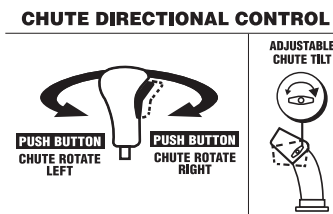

Figure 3-8
- To change direction in which snow is thrown, squeeze button on joystick and pivot joystick to right or to the left. See Figure 3-8.